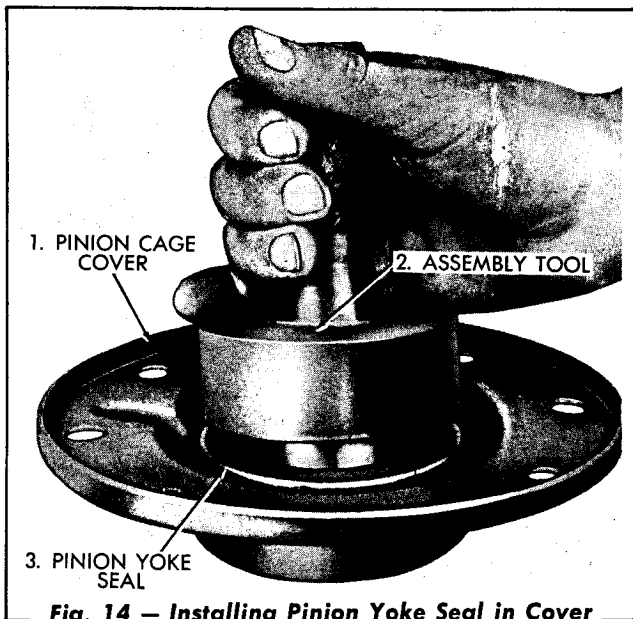

Fig. 14 — Installing Pinion Yoke Seal in Cover
10. Coat outer edge of the pinion yoke seal with a non-hardening sealing compound and press the seal into the cover (Fig. 14), being certain that the seal is firmly against the shoulder in the cover.